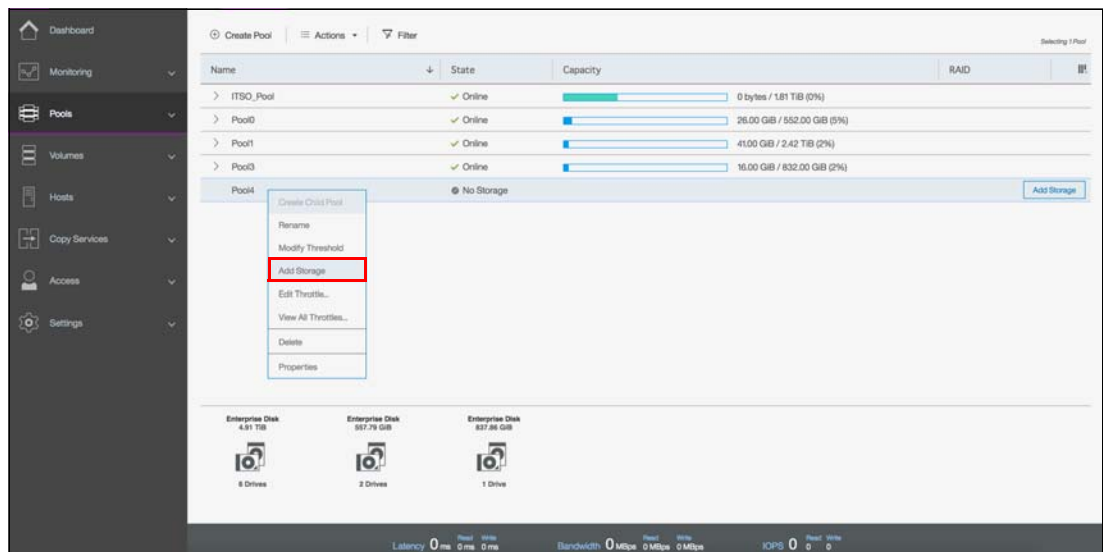

Figure 4-42 Add storage: option 2
- Option 2: Right-click the pool and select **Add Storage**, as shown in Figure 4-42. Alternatively, select the a pool and click **Actions**.